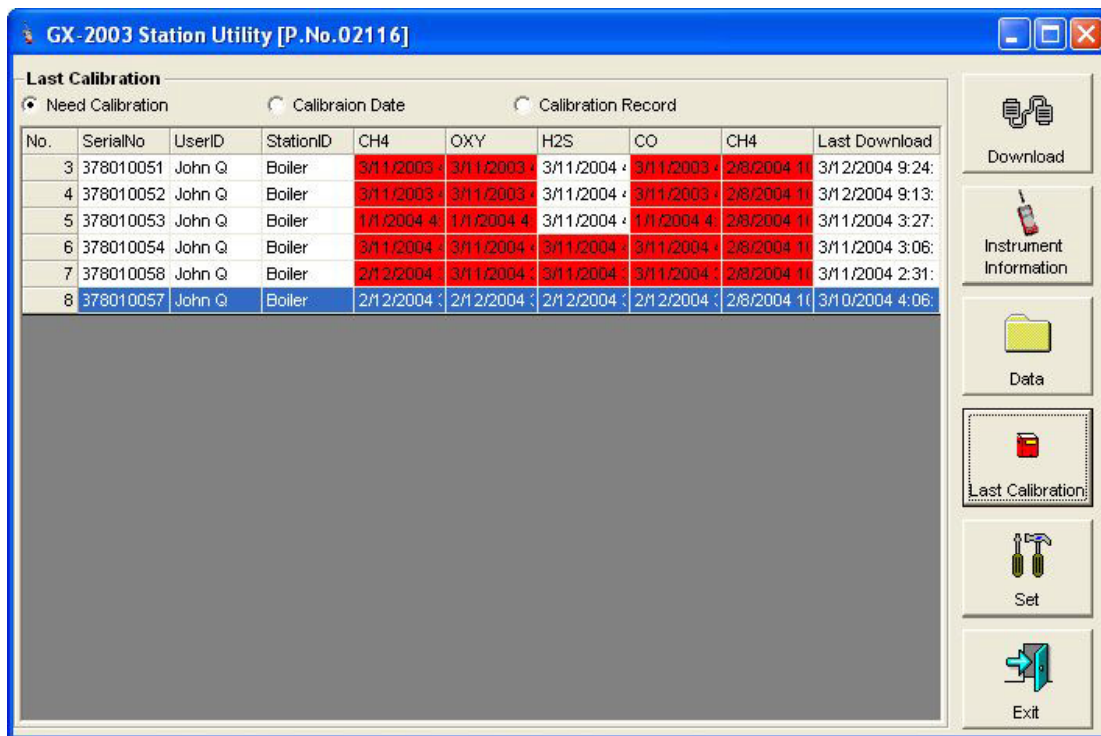

Figure 9: Last Calibration Information: Need Calibration Option
- **Calibration Date** — selecting this option shows the calibration information for all the GX-2003 units that are in the software database. The fields for the Need Calibration and Calibration Date screens are the same. Figure 9 shows the Need Calibration Option selected. The fields on the Need Calibration and Calibration Date screens are described below: